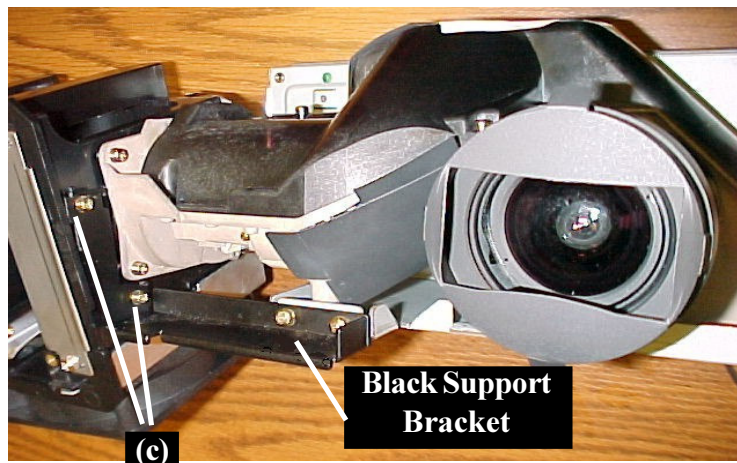

Figure 3-6: Black support Bracket Removal
- Black support bracket removal (*Figure 3-6*).